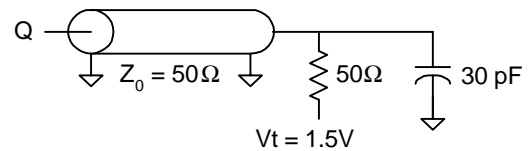

Fig. 1 OUTPUT LOAD EQUIVALENT
| Output load | See Figures 1 and 2 |
- Test conditions as specified with the output loading as shown in Fig. 1 unless otherwise noted.
- Capacitance derating applies to capacitance different from the load capacitance shown in Fig. 1.